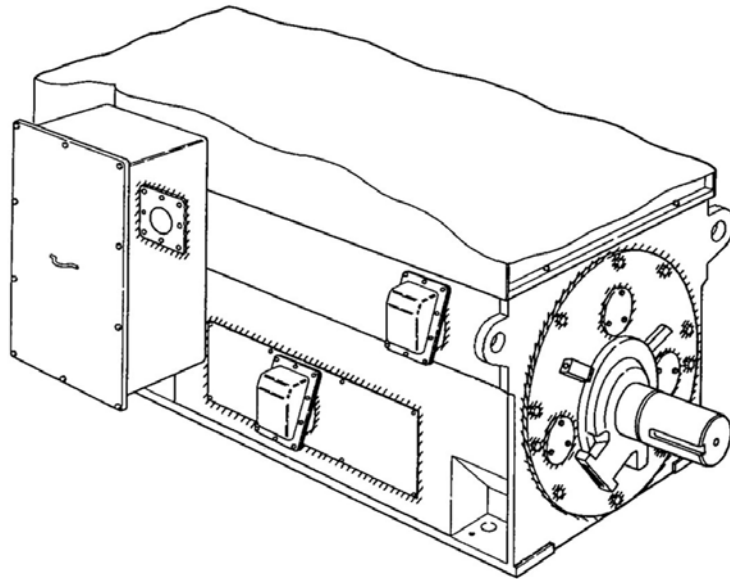

Fig. 4 Sealant application areas
- (8) For an outdoor motor, apply sealant after assembling the bearing area, as shown in Fig. 4.